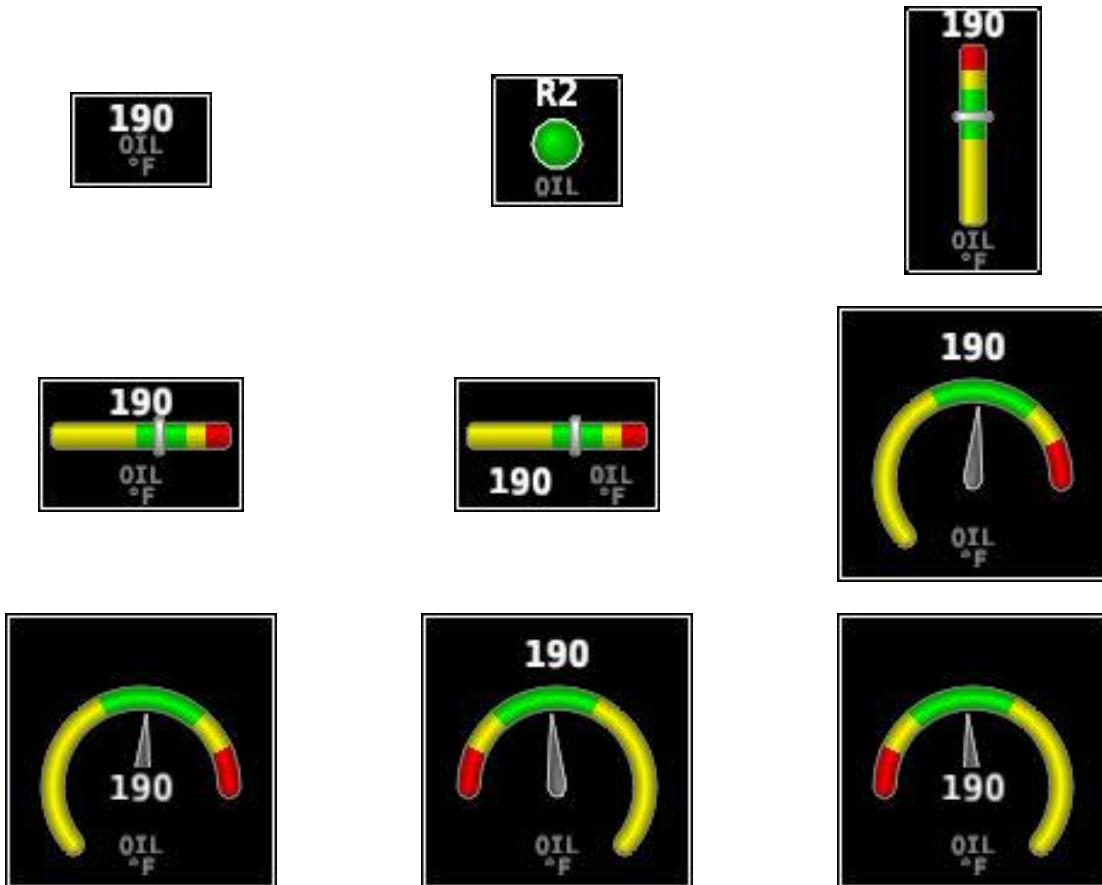
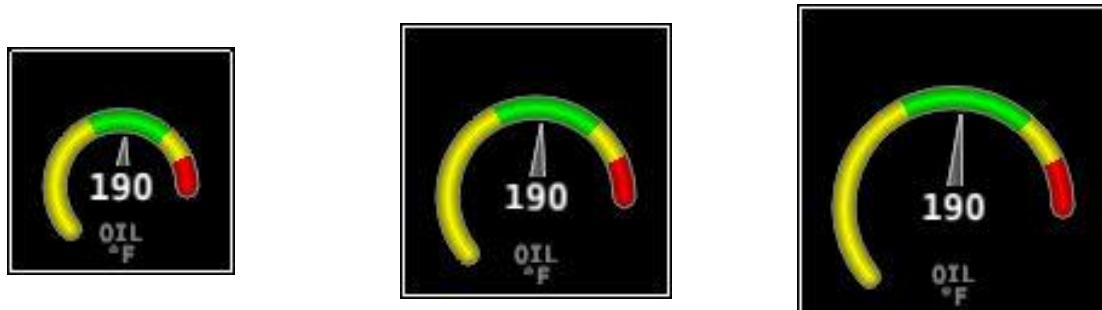

Figure 95 – Example of Oil Temperature Widget Styles
Figure 96 – Example of Oil Temperature Widget Sizes
If one SkyView display is being used as a dedicated Engine page with a 100% page layout, installer may consider using individual widgets to display the functions listed above. Individual widgets are selected from the SCREEN LAYOUT EDITOR's SENSOR list and are labeled Function (1) and Function (2). The Function (1) widget is linked to the EMS module installed for the left engine, which is configured as ENGINE #1 EMS in SETUP MENU > EMS SETUP > DUAL EMS SETUP. The Function (2) widget is linked to the right engine EMS module (ENGINE #2 EMS). These widgets come in the same style and size variations as shown in Figure 95 and Figure 96.